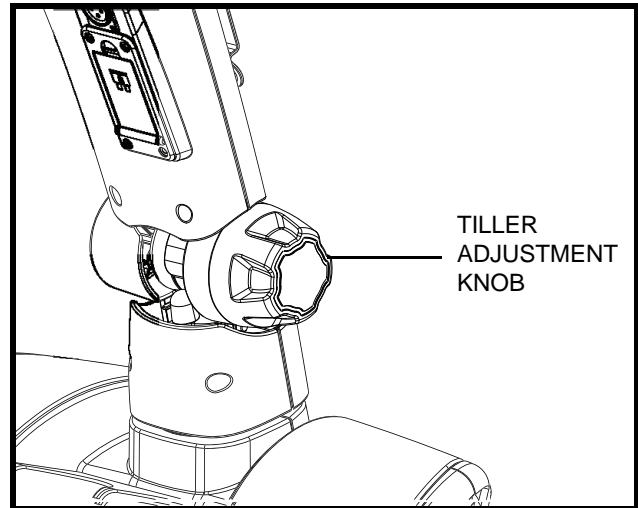

Figure 14. Tiller Adjustment
1. While supporting the tiller, turn the tiller adjustment knob anticlockwise to loosen the tiller. **See figure 14.**